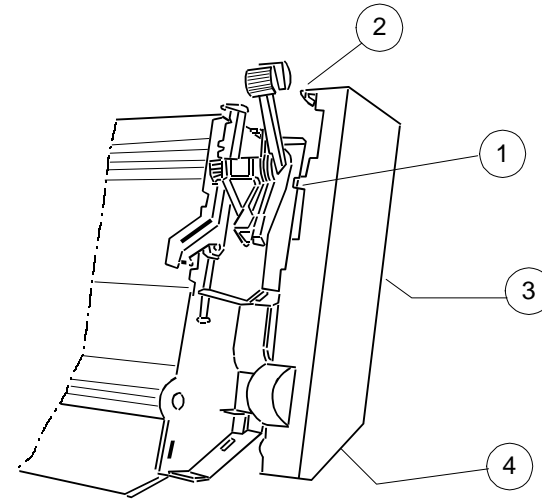

Figure 1
- ● Remove the lever-side cover of the ASF Cassette by releasing of the four snaplocks (No. 1 - 4 in figure 1). Use a flat screw driver to do so and keep the sequence of figure 1.
- ● Remove both side covers of the ASF Cassette by releasing of each snaplocks (No. 1 - 4 in figure 1).